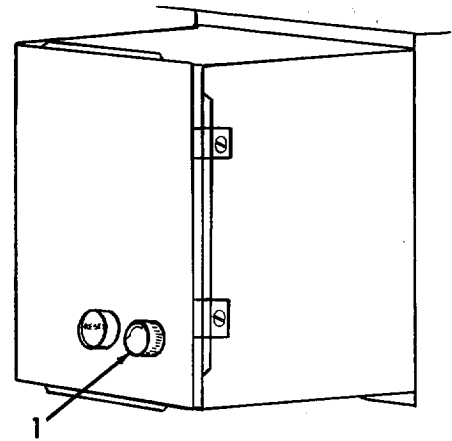

Figure 2-7. Motor Shut-Down.
- a. Refer to Figure 2-7. Turn the motor starter box on/off switch (1) to stop the motor.